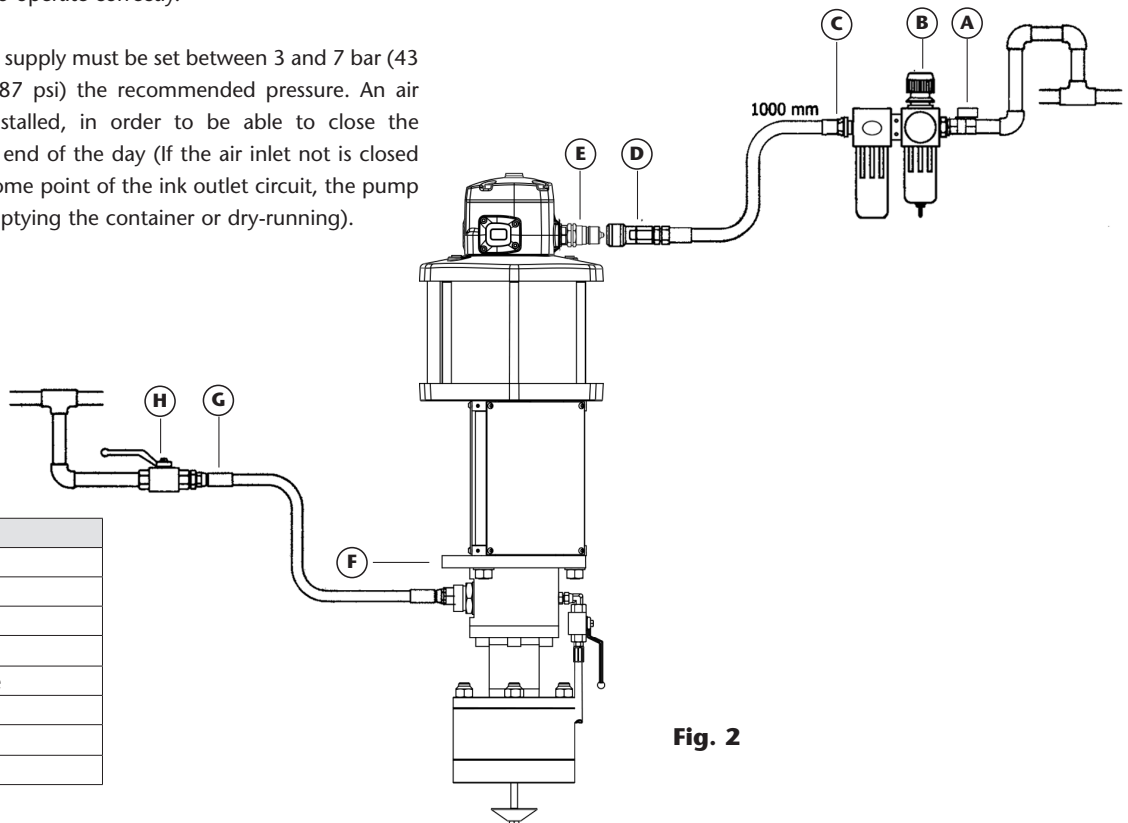

Fig. 2
Figure 2 is a typical installation shown with all the recommended accessories for the pump to operate correctly.
1. Open the bleed air valve (86). The pump can now expel any air trapped in (fig. 2).
3. Close the pump air bleed valve (86) as soon as the material trapped air is pumped out of the valve.